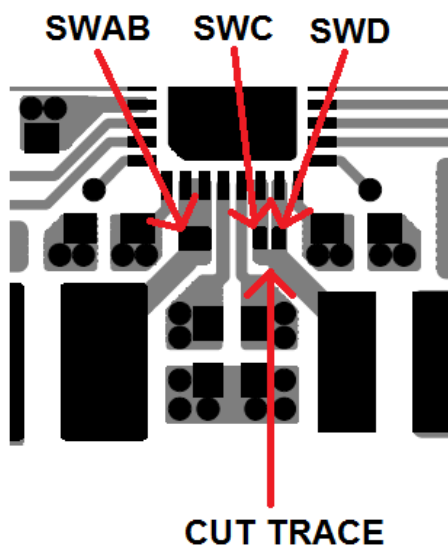
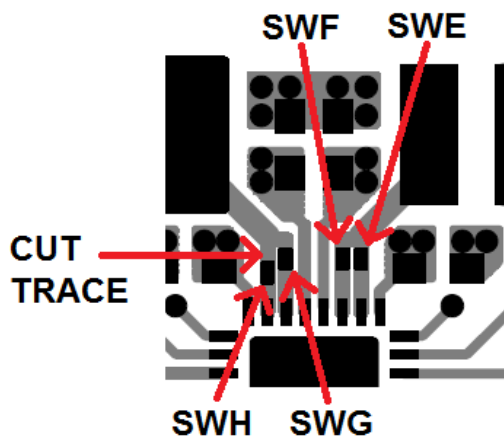

Figure 5. Cut SWC and SWD connection near pins
Figure 6. Cut SWH trace between L4 and SWH pin
- Any switch node associated with a  $V_{IN}$  trace that was cut will also need to be cut. The SWC/SWD traces and SWD/SWF traces can be cut in between to pads near the SW pins as shown in Figure 5. The SWG/SWH traces only need to be cut for the “4112” configuration. SWH needs to be cut between the SWH pin and L4 as shown in Figure 6.
- All switch nodes of adjoining power stages will need to be connected together. Each power stage has a pad to solder a small bus wire, 28AWG. The switch node pads are also shown in Figure 5 and Figure 6. Carefully solder a bus wire as short as possible between adjoining power stages.